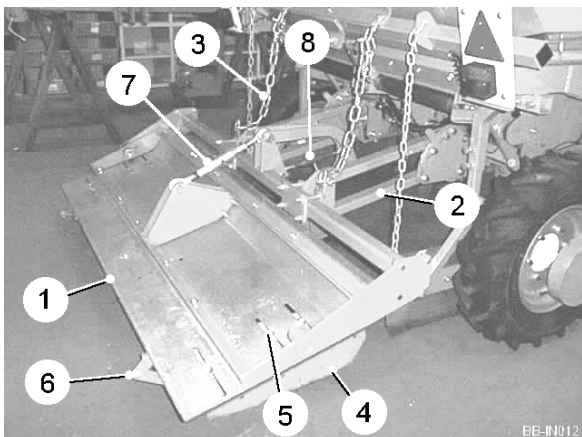
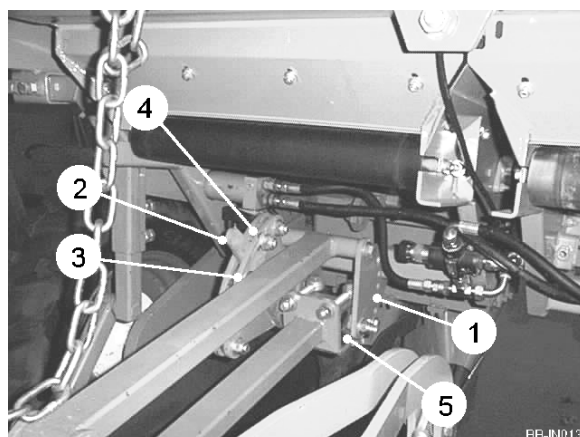

Fig 11
Fig 12
The adjustable moulding board (item 1, figure 11) is mounted to the rear of the planter via parallel linkage arms (item 2, figure 11). During work these arms should be at approximately 10° from horizontal. This can be achieved by repositioning the bolts (item 1, figure 12) into a different set of holes. The height and downward pressure exerted by the moulding board is controlled by the reaction arm (item 2, figure 12) and upper and lower stops. The lower stop (item 3, figure 12) controls the height of the board whilst simultaneously reduces the pressure of the board on the bed. The upper stop (item 4, figure 12) induces a downward pressure on the board by loading the rubber torsion springs (item 5, figure 12) within the lower arm pivots. Both stops are adjusted by loosening their retaining bolt and sliding the stop around the slot to the required position. If when in work no pressure is required on the bed, the stops can be adjusted to allow the reaction arm (item 2, figure 11) to move freely. The support chains (item 3, figure 11) should be adjusted to allow the moulding board to float when in work but prevent it from dropping too low when the planter is lifted on the tractor linkage.
The position of the wings (item 4, figure 11) is important to ensure a nicely formed bed. The outer wings are adjustable for both position and angle. The position of the wing determines the width of the finished bed. To adjust, loosen the mounting bolts (item 5, figure 11) and slide the outer wing assembly to the required position.
The angle at which the wings operate will determine the shape of the bed. To adjust, loosen the retaining bolt (item 6, figure 11) and rotate the wings to the required position. The top link (item 7, figure 11) sets the moulding board angle. Initially the angle should be set at approximately 5° from horizontal. Increasing the angle will allow more soil under the board. The depth at which the centre plough operates is set using the top link (item 8, figure 11). The deeper the plough is set, the more soil it will push sideways. Care should be taken however as going too deep may move the seed in the bed.